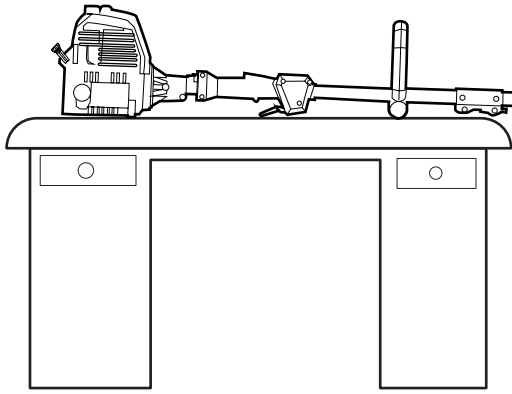

Fig. 19
2. Set the unit on a flat, level surface, such as a workbench or table. The cutting head shield should hang over the edge so that the engine is level (Fig. 19).